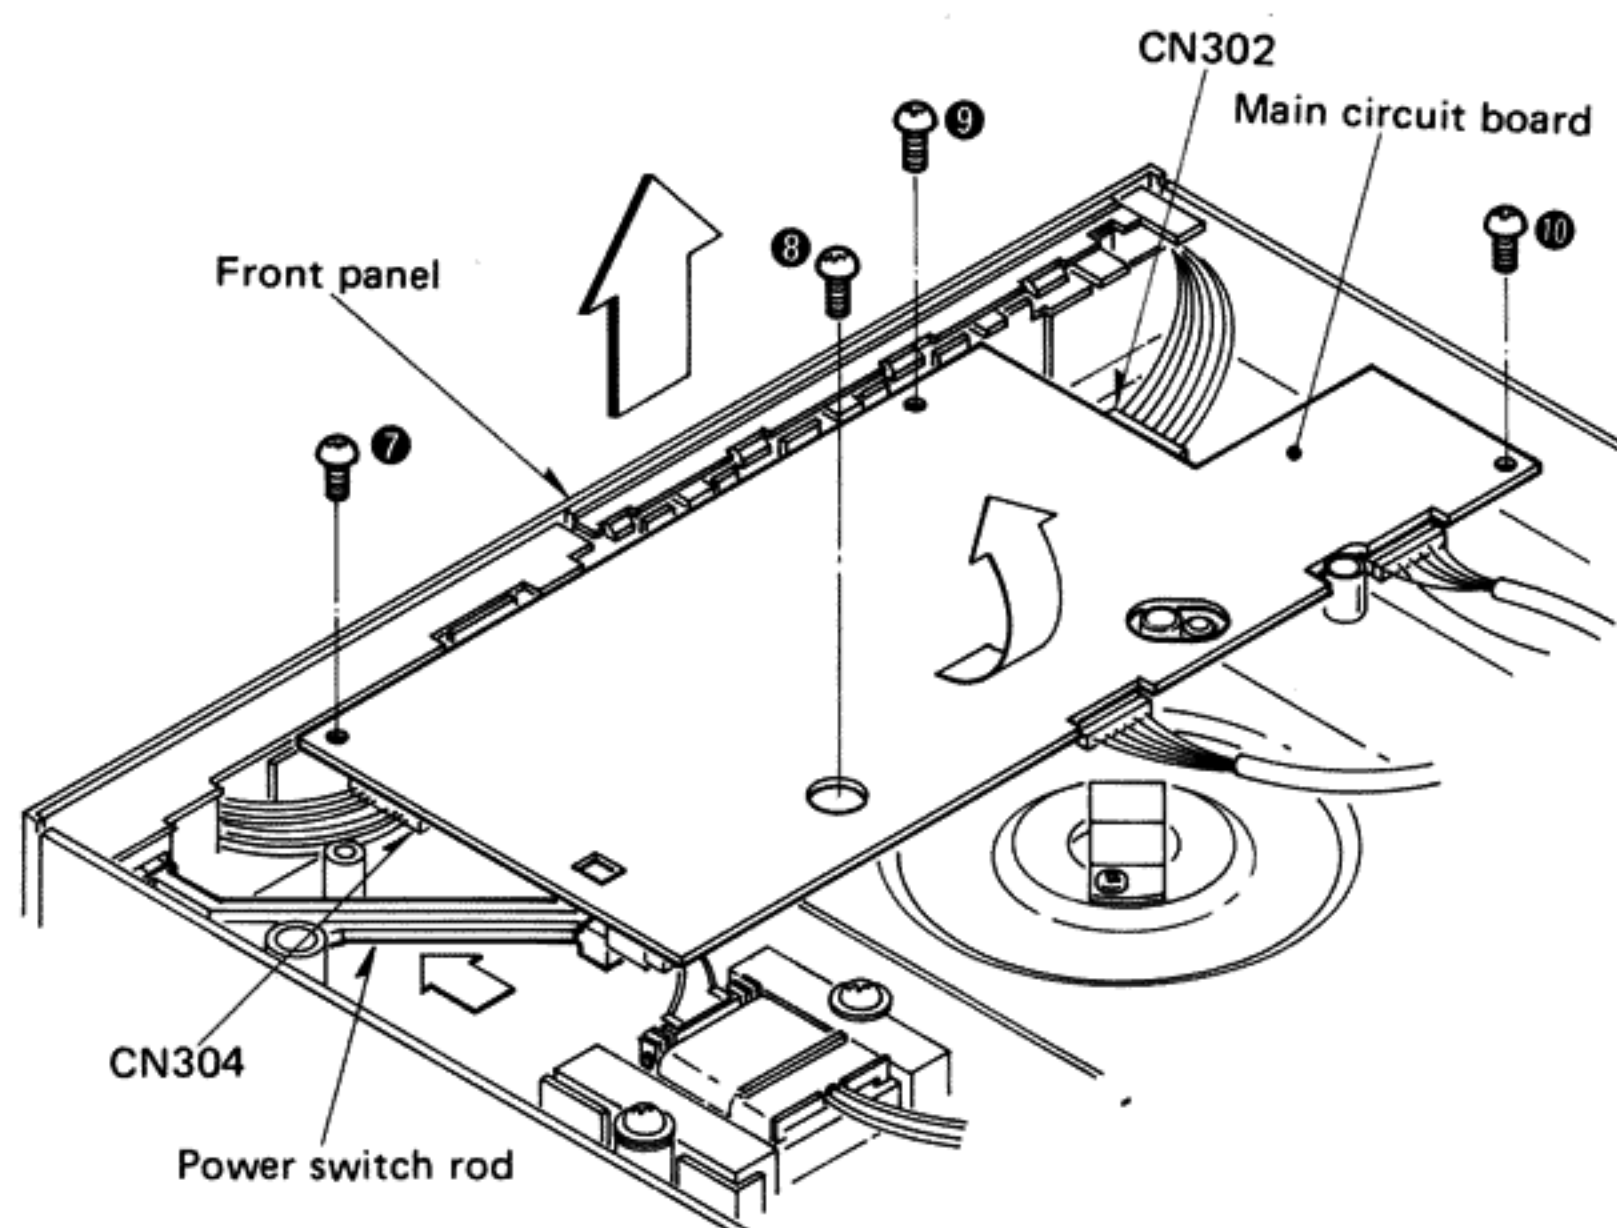

Fig. 6
3. Remove the 4 main circuit board setscrews (Fig. 6 : ⑦ ~ ⑩)
2. Remove the 2 connectors (Fig. 6 : CN302 and CN304), and then, lift the front panel. (Fig. 6)